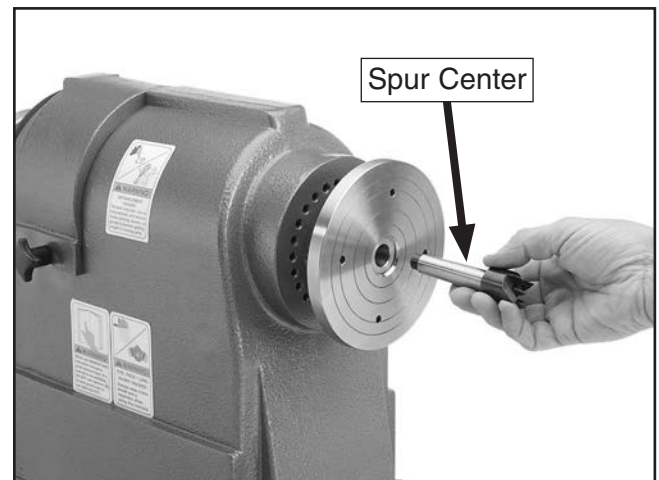

Figure 17. Installing center into the headstock spindle.
3. Insert the tapered end of the center into the spindle, and push it in with a quick, firm motion (see **Figure 17**).